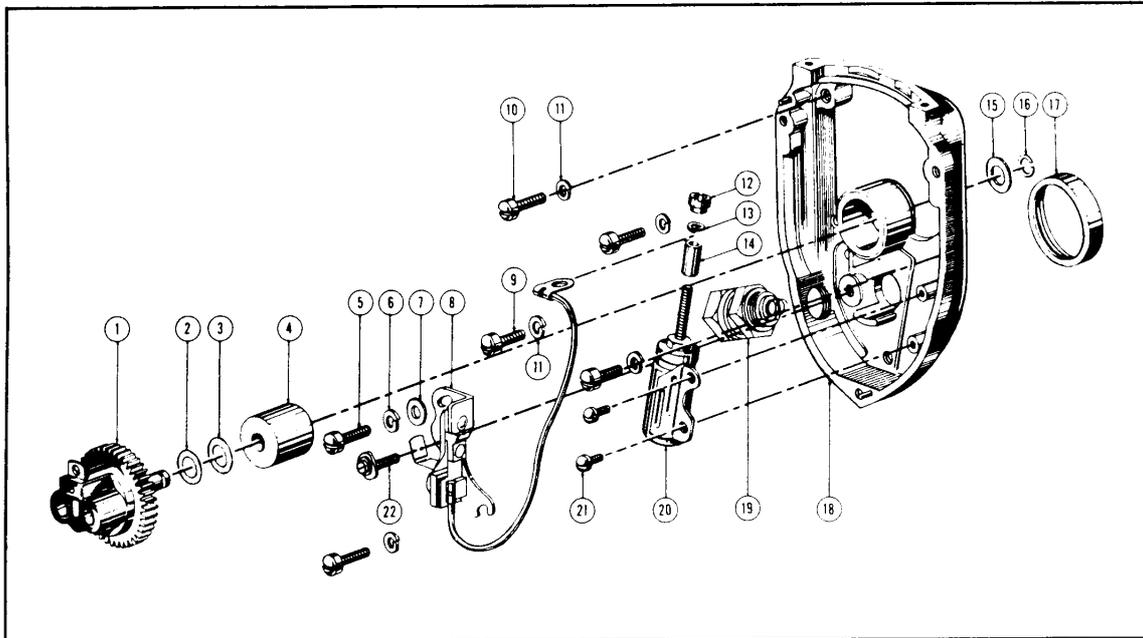
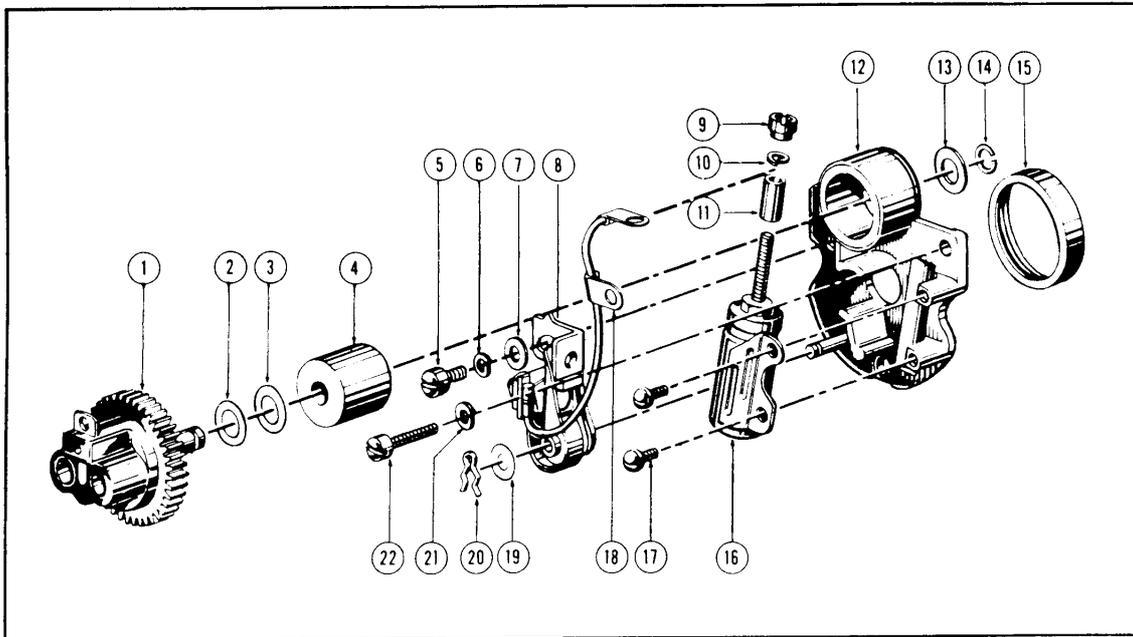
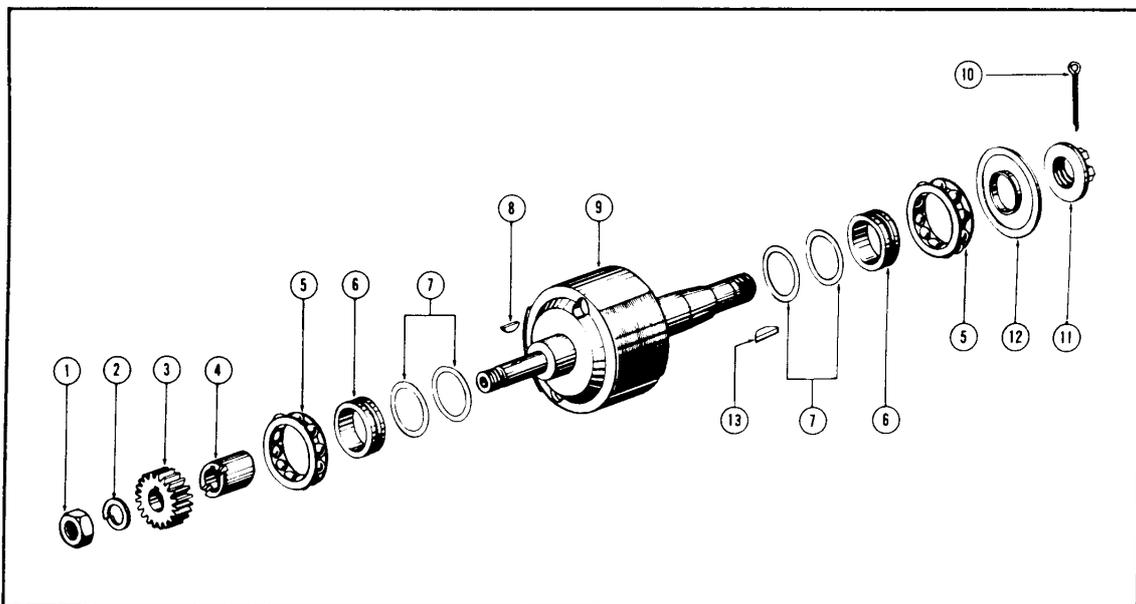

Figure 14. End Plate Assembly, LA Magneto
Figure 15. End Plate Assembly, AM Magnetos
Figure 17. Rotor Shaft Assembly
Remove the cotter pin (10), and drive nut (11). (See figure 17). Remove the impulse starter from the drive end of the magneto by using puller tool No. H19-946. While performing this operation, exercise caution to avoid allowing the starter spring to jump free.
(See figure 17). Remove the nut (1), lockwasher (2) and pinion gear from the breaker end of the rotor shaft. (See figure 14). Remove the condenser post nut (12) from the condenser terminal post and remove
(See figure 17). Remove the nut (1), lockwasher (2) and pinion gear (3) from the breaker end of the rotor shaft.
(See figure 15). Remove the condenser post nut (9) from the condenser terminal and remove the high tension coil lead from the condenser (16).
Remove the snap ring (figure 14, ref. 16 and figure 15, ref. 14) from the groove in the distributor gear and rotor shaft by means of a suitable snap ring tool.
Remove the spacer or shim washer (figure 14, ref. 15 and figure 15, ref. 13) and withdraw the shaft from the oilite bearing (ref. 4, figures 14 and 15).
Remove the spacer or shim washers (refs. 2 and 3, figures 14 and 15) from the inner end of the shaft.
(See figure 17). Remove breaker cam (4) and woodruff key (8) from the breaker end of the magneto rotor shaft.